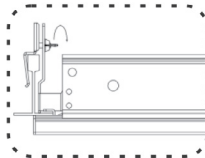
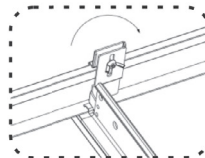

Figure2
Figure3
4. Install the linear light to ceiling grid and tighten the two terminal nuts. (Figure2 and Figure3)